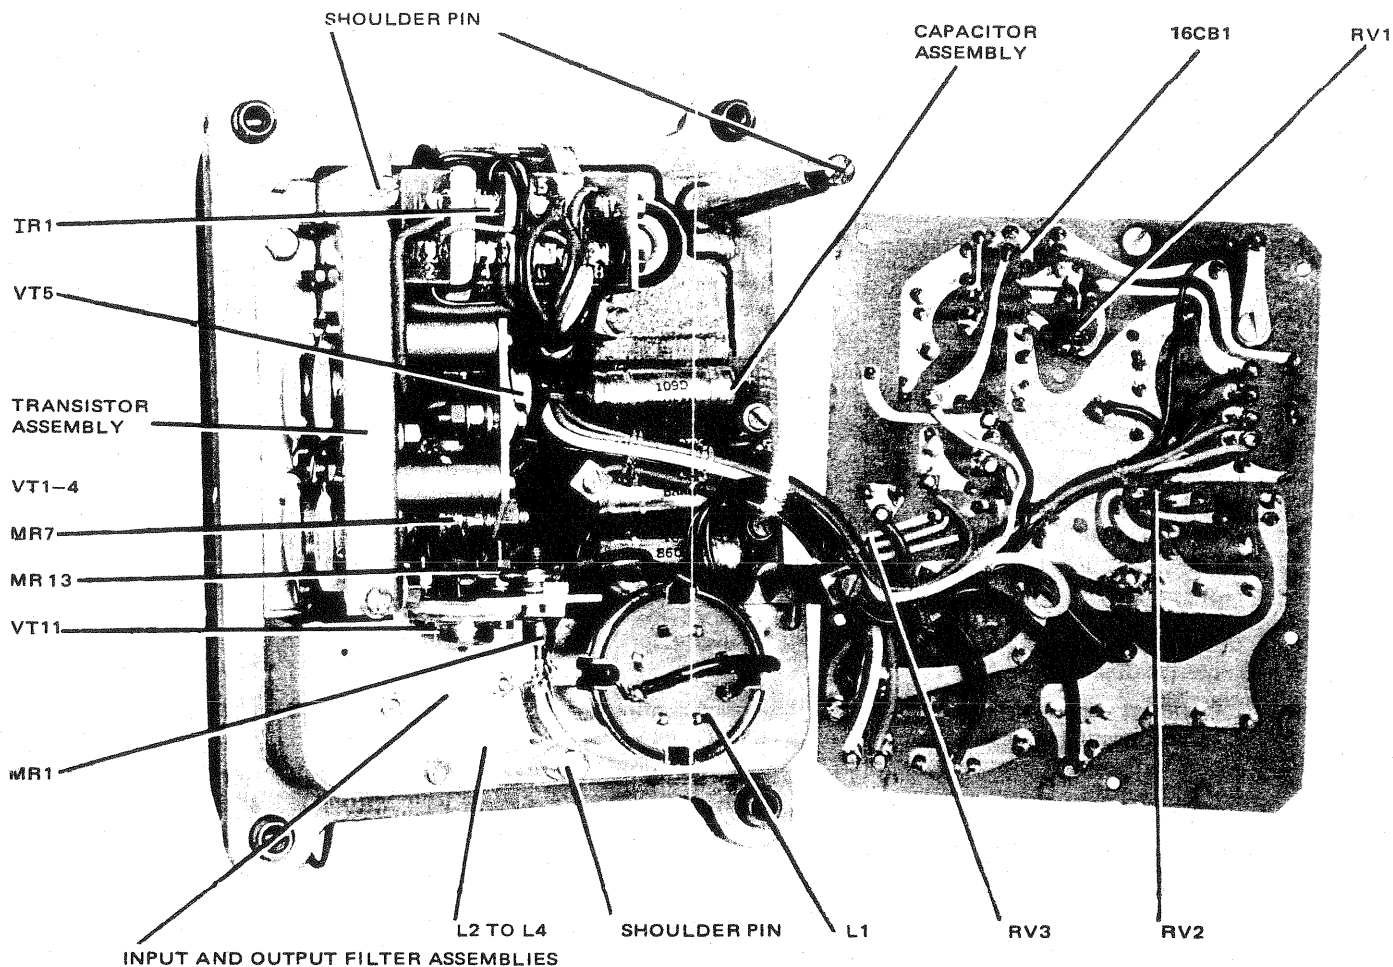

FIG 4 - REAR VIEW OF ASSEMBLIES (OPENED EQUIPMENT)
21. Field repair will normally entail the replacement of individual components and minor assemblies. The complete equipment is to be back-loaded where repair involves extensive disconnection, ie, main circuit board removal. Component locations are shown in Figs 4 and 5; wiring interconnexions and circuit detail in Fig 6. Table 2 provides a guide to fault symptoms and corrective action.
- Secure the board in position with the four 6BA screws and washers and the three shoulder pins and washers (Fig 4). Ensure that the board is firmly secured before refitting the case.
- Unfasten circuit board 16CB1 (paragraph 22 (a and b)), lift it from the mounting posts and fold aside (Fig 4).